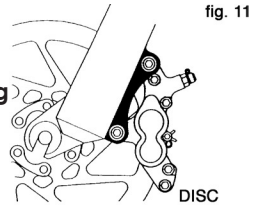
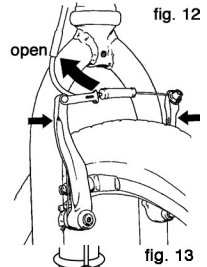

fig. 11
fig. 12
(1) If your bike has rim brakes, disengage the brake's quick-release mechanism to open the clearance between the tire and the brake pads (See Section 4.C fig. 11 through 15).
(1) Shift the rear derailleur to high gear (the smallest, outermost rear sprocket).
(2) If your bike has rim brakes, disengage the brake's quick-release mechanism to open the clearance between the wheel rim and the brake pads (see Section 4.C, figs. 11 through 15).
(3) Pull the derailleur body back with your right hand.
(1) If your bike has rim brakes, disengage the brake's quick-release mechanism to open the clearance between the tire and the brake pads (see Section 4.C, figs. 11 through 15).
(2) Using a correct size wrench, loosen the two axle nuts.
(2) Shift the rear derailleur to high gear (the smallest rear sprocket) and pull the derailleur body back with your right hand.
3. Some bicycle brakes, such as disc brakes (fig. 11) and linear-pull brakes (fig.12), are extremely powerful. Take extra care in becoming familiar with these brakes and exercise particular care when using them.
Most brakes have some form of quick-release mechanism to allow the brake pads to clear the tire when a wheel is removed or reinstalled. When the brake quick release is in the open position, the brakes are inoperative. Ask your dealer to make sure that you understand the way the brake quick release works on your bike (see figs. 11, 12, 13, 14 & 15) and check each time to make sure both brakes work correctly before you get on the bike.